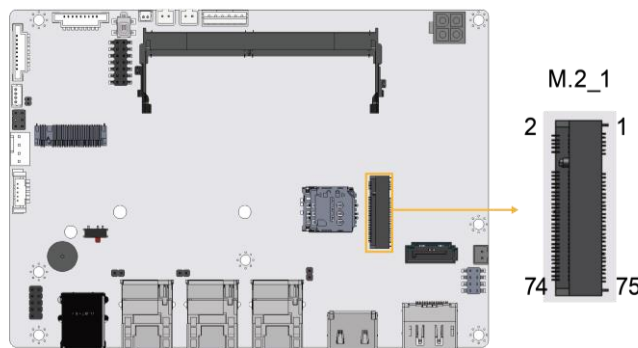

Figure 3-30: M.2 B key Slot Location
- CN Location:** See **Figure 3-30**